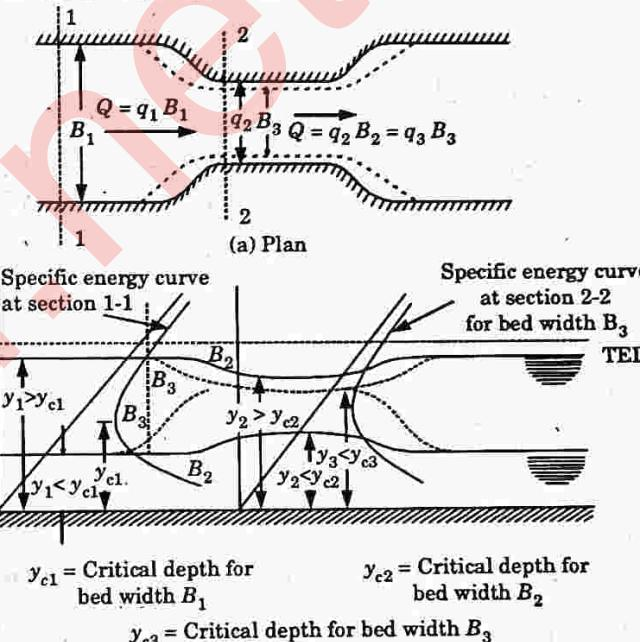

Fig. 2.1.1
1. Consider a rectangular channel section. The width of the channel is reduced as shown in the Fig. 2.1.1.
6. The width of channel at section (1)-(1) = B_1